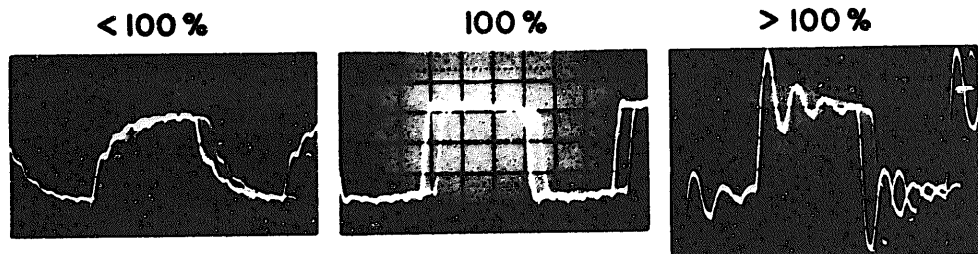

Figure 2G. Typical Sampling Efficiency Waveforms
f. Adjust Channel A sampler bias control A3R20 for 100% sampling efficiency. Sampling efficiency is **100%** when the top of the waveform is nearly flat. See typical waveforms in Figure 2G.
- g. Adjust Channel B sampler bias control A4R20 for 100% sampling efficiency. See typical waveforms in Figure 2G.
- (1) Connect the 8405A Channel A probe to the Oscilloscope vertical input with a probe-to-BNC adapter.
- (2) Adjust Symmetry control A3R15 to minimize the sampling signal. Minimum signal should not exceed 5 mV p-p.
- (3) Repeat steps 1 and 2 for Channel B probe adjusting Symmetry Control A4R15.